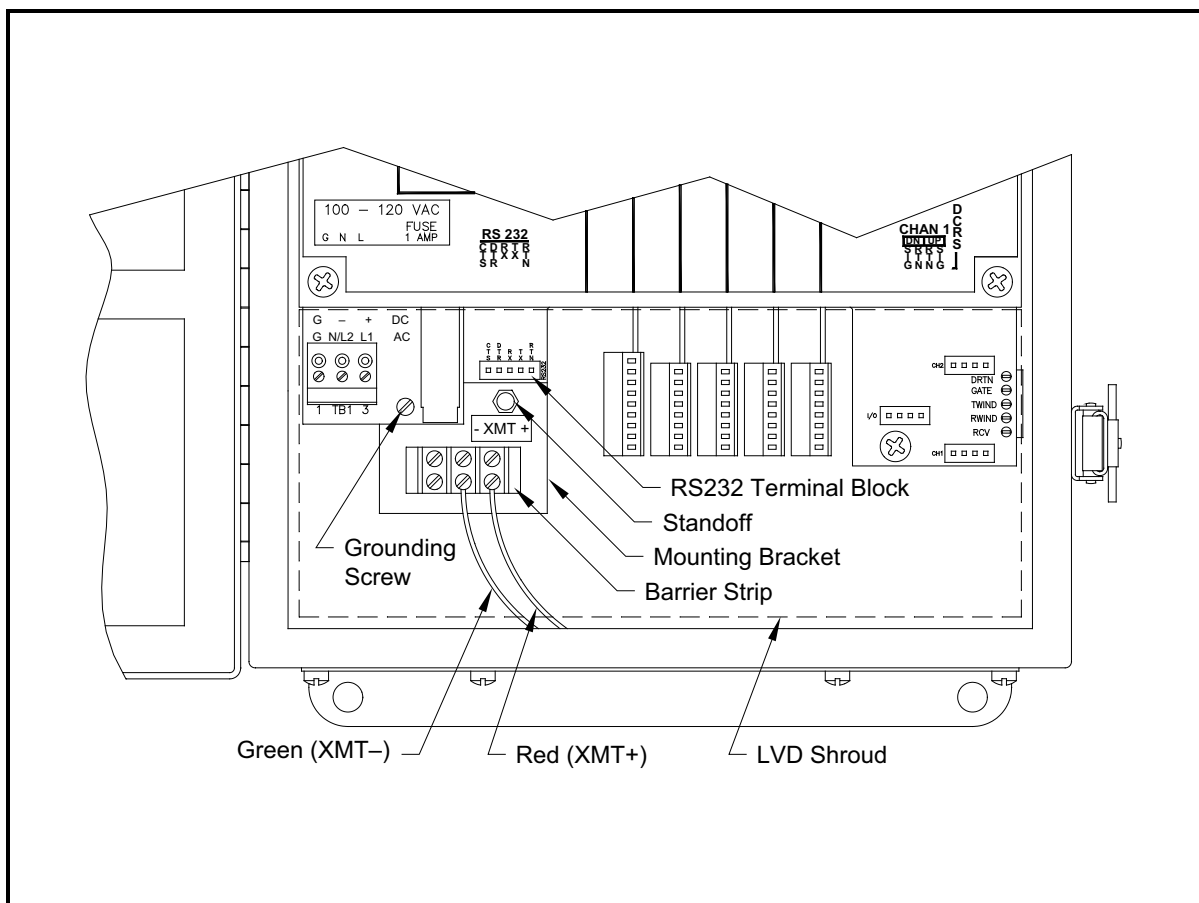

Figure 9: Interface Converter Mounting
A special bracket containing the serial interface converter and a three-terminal barrier strip is mounted inside the Model GM868, just below the RS232 terminal block (see Figure 9 below). The standard RS232 terminal block is wired to the input of the serial interface converter, and the RS-485 output of the serial interface converter is wired to the barrier strip.
Standard factory wiring of the RS485 serial interface is configured for point-to-point wiring. That is, a single Model GM868 may be wired directly to a single personal computer. To connect the RS485 serial interface, refer to Figure 9 on page 71 and complete the following steps:
3. Remove the serial interface converter *mounting bracket* by removing the standoff located below the **RS232** terminal block and the grounding screw just to its left (see Figure 9 on page 71).